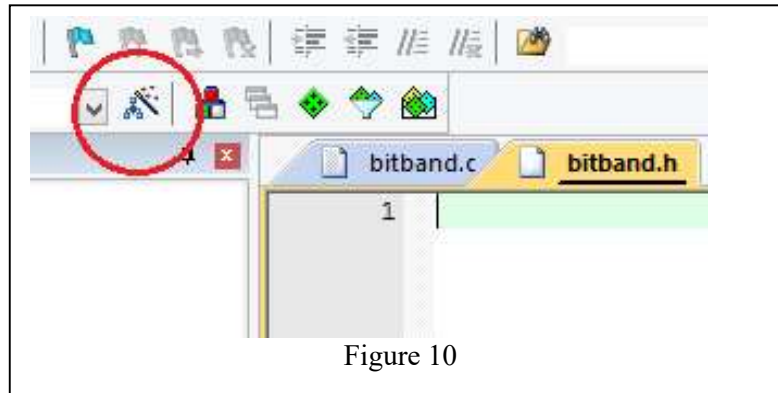

Figure 10
10. Click on the  icon on the top menu. Shown in Figure 10